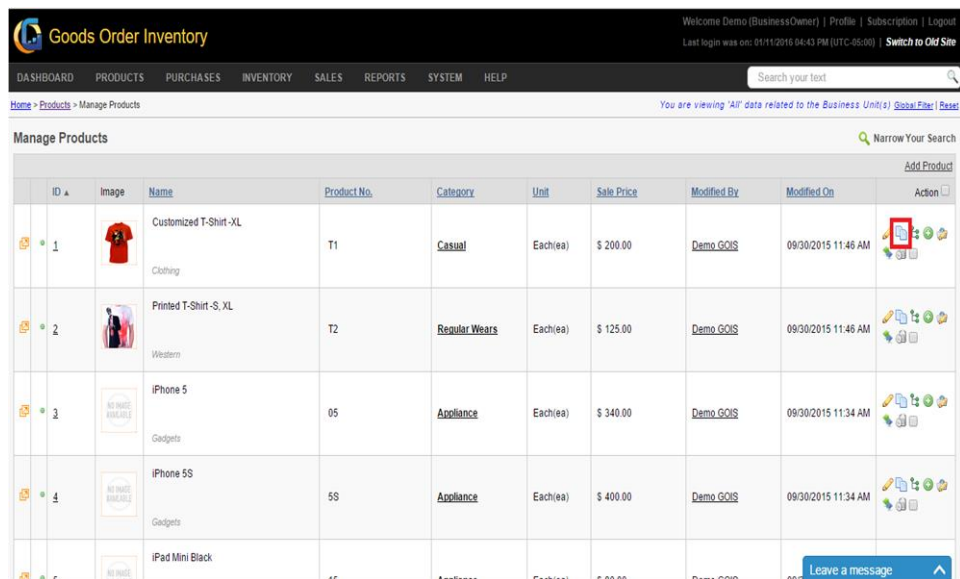

FIGURE 2.1.12
1. To make clone of a product user needs to click on the icon, highlighted in the snapshot given below in (Figure 2.1.12).